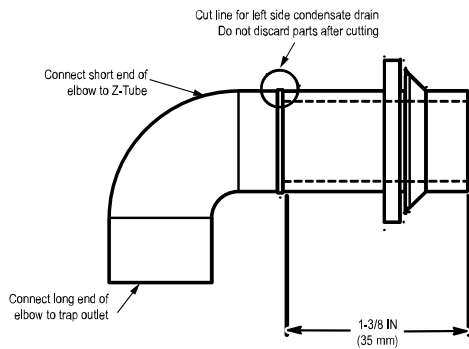

Fig. 17 – Modify Rubber Drain Elbow
3. The Z-pipe is connected to the condensate trap and the outside of the furnace by modifying the formed rubber drain elbow as shown in Fig. 17.
4. Remove the formed grommet from the rubber drain elbow by cutting the elbow along the vertical line located about 1-3/8 in. (35 mm) away from the formed grommet (Fig. 17). **DO NOT DISCARD THE FORMED GROMMET OR THE RUBBER ELBOW.** Both of these pieces will be used.
TIP FROM CONTRACTORS: When installing the furnace horizontally, use the entire drain elbow (that is, do **NOT** cut as shown in Fig. 17) to connect the trap to the drain line. This helps to prevent bumps and shocks to the drain line from damaging the furnace drain trap. Avoid misalignment of the drain pipe which may cause kinks in the elbow.